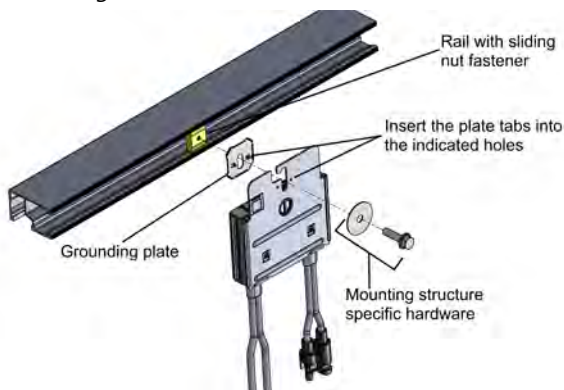

Figure 4: Power optimizer installation and grounding using a grounding plate
- **For mounting on rails with sliding nut fasteners:** If the star washer cannot be used, use the SolarEdge grounding plate (purchased separately) between the railing and the flat side of the mounting bracket. Use mounting specific hardware as needed. Apply torque of 9.5 N*m / 7 lb*ft. See *Figure 4*.